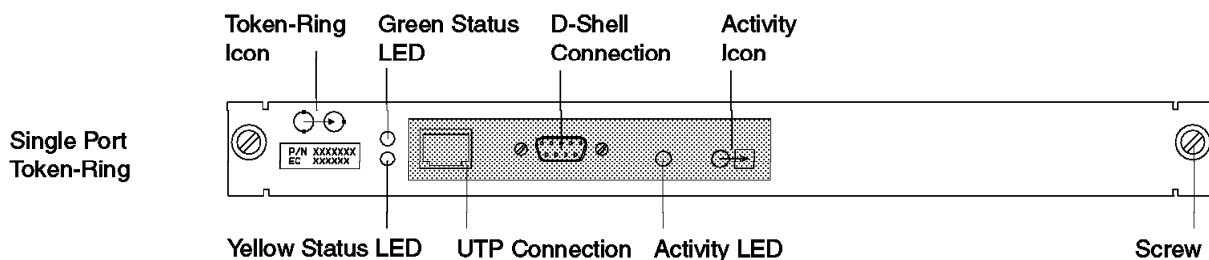

Figure 4. Single-Port Token-Ring Attachment Module
2. Connect cable **A** (PN 6339098) from the D-Shell connector of the token ring module (refer to Figure 4 on page 10) to the SPAU (8228).